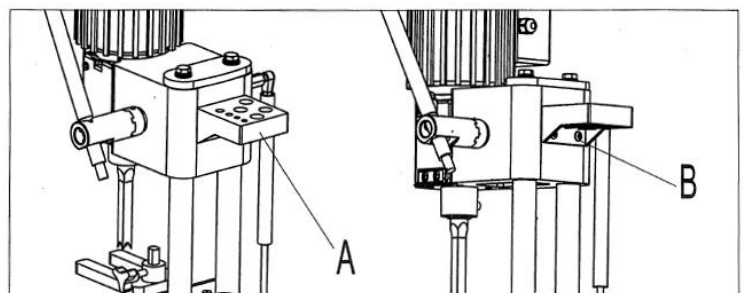

Fig. 8
See Fig. 8. Assemble the tool and chisel holder (A) to the side of the column using the two M6x1x25mm screws (B) and M6 flat washers as shown.